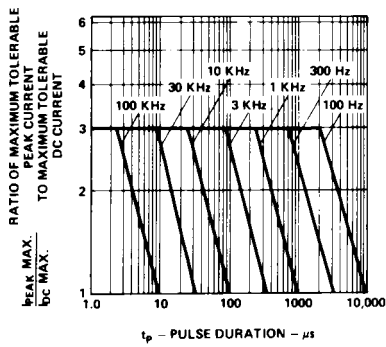

Figure 5. Maximum tolerable peak current vs. pulse duration. (I_{DC} MAX as per MAX ratings).
1. See Figure 5 (Red/Orange), 10 (Yellow), or 15 (Green) to establish pulsed operating conditions.